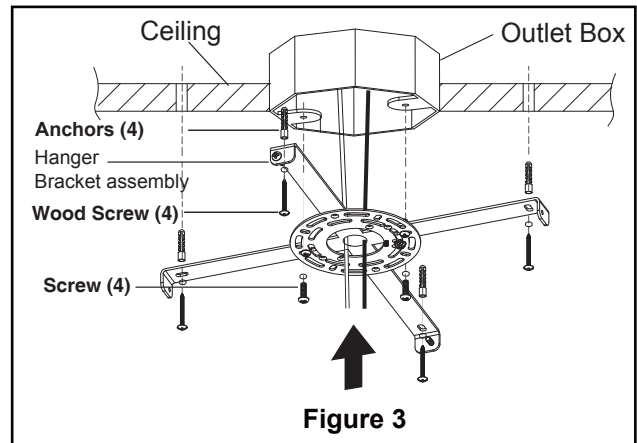

Figure 3
Your new ceiling fan will require a grounded electrical supply line of 120 volts AC, 60 HZ, 15 Amp Circuit. Electrical code requires use of a fan-rated outlet box to support the extra weight and motion associated with a ceiling fan. A fan-rated box will be labeled as such and typically supports up to a 70lbs ceiling fan. Fan-Rated Outlet Boxes vary in ratings and design. Ensure the ratings of your ceiling fan outlet box meet the requirements for the ceiling fan being installed. Figure 1, Figure 2 and Figure 3 depicts different structural configurations that may be used for mounting the outlet box.
Brace use (Figure 3)
- 1. Securely attach the hanger bracket to the outlet box using the outlet box screws and washers supplied with the outlet box. (Figure 3)
NOTE: Safety cable cannot be secured to outlet box only, it must be directly secured to ceiling joist or the provided anchors, using the 3/8" x 2" wood screws and flat washer. (Figure 3)